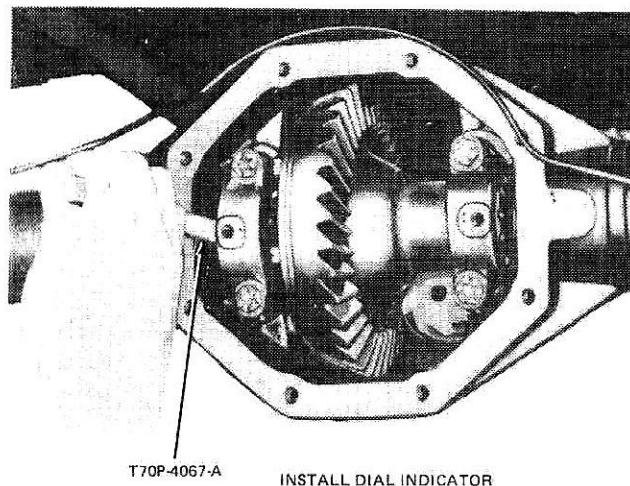

FIG. 27 Backlash and Bearing Preload Adjustment
15. Install the bearing cap bolts and lockwashers. As the bolts are tightened, turn the adjusting nut with the tool shown in Fig. 27.